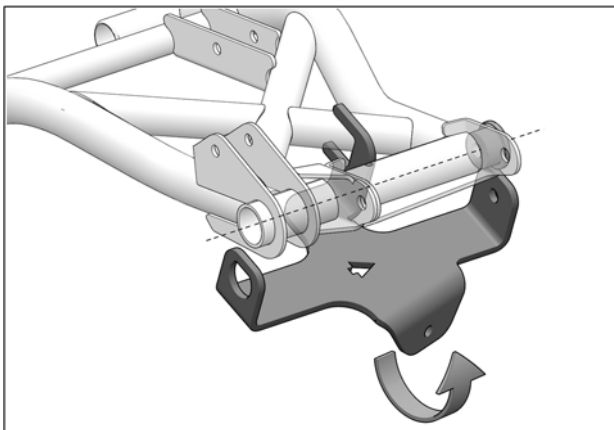

Fig. 6
6. Pivot front of anchor bracket upward and align its mounting holes with suspension arm tube holes. See Fig. 6